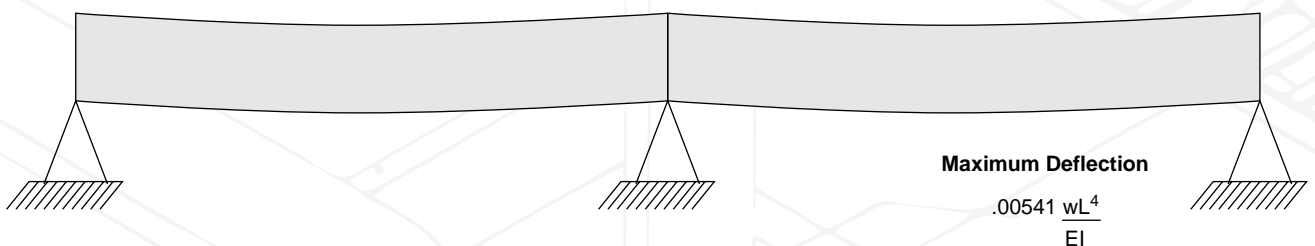

Figure 1.3
**Simple vs. Continuous Beam Deflection.** (See Figure 1.3.) Theoretical maximum deflection for a simple beam, uniformly distributed load may be calculated as: